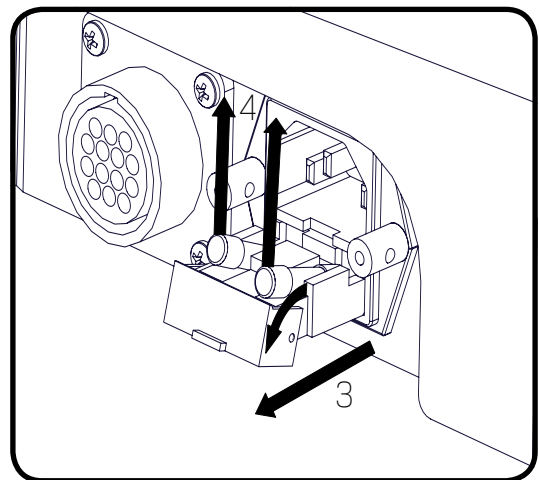

Figure 1
4. Insert new fuse(s) with same type of fuse removed in step 3. (See figure 1 below) See "SPECIFICATIONS" on page 26 for fuse type.